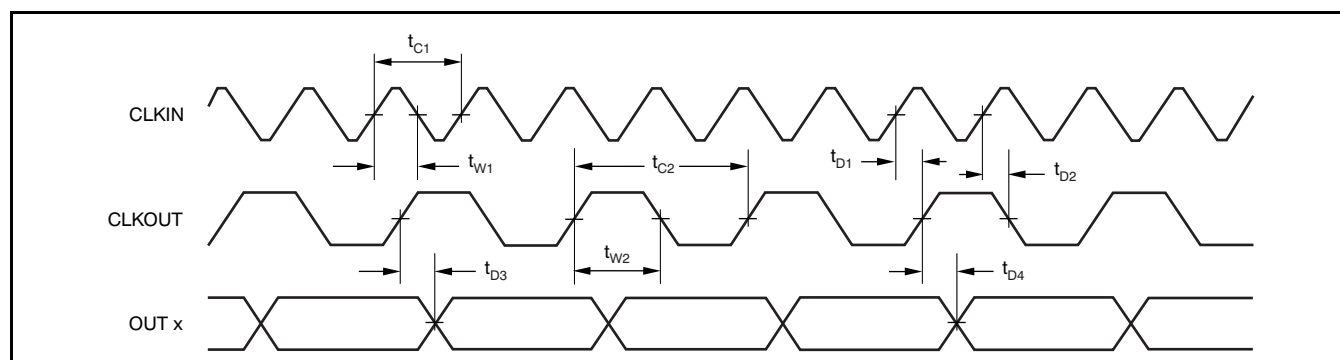

Figure 1. ADS1204 Timing Diagram
(1) Applicable for 5.0V nominal supply:  $\text{BV}_{\text{DD}}(\text{min}) = 4.5\text{V}$  and  $\text{BV}_{\text{DD}}(\text{max}) = 5.5\text{V}$ . All input signals are specified with  $t_{\text{R}} = t_{\text{F}} = 5\text{ns}$  (10% to 90% of  $\text{BV}_{\text{DD}}$ ) and timed from a voltage level of  $(V_{\text{IL}} + V_{\text{IH}})/2$ . See Figure 1.
(1) Applicable for 3.0V nominal supply:  $\text{BV}_{\text{DD}}(\text{min}) = 2.7\text{V}$  and  $\text{BV}_{\text{DD}}(\text{max}) = 3.6\text{V}$ . All input signals are specified with  $t_{\text{R}} = t_{\text{F}} = 5\text{ns}$  (10% to 90% of  $\text{BV}_{\text{DD}}$ ) and timed from a voltage level of  $(V_{\text{IL}} + V_{\text{IH}})/2$ . See Figure 1.